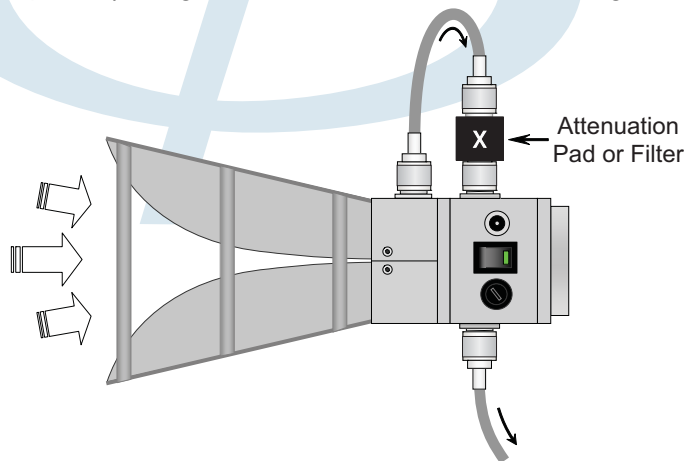

Figure 8 – AHA-118 - ACTIVE-Rx (non-std) Configuration
- 3) Disconnect the coaxial jumper cable from the preamplifier input connector of the antenna. Attach an appropriately rated coaxial attenuator (at least 10 dB) to the preamplifier input port, and connect the coaxial jumper cable to the attenuator input (see Figure 8). Reposition (if necessary) the antenna to the height noted in Step 1.
Illustrated in Figure 8 is the AHA-118 Active Double Ridge Horn Antenna in its ACTIVE-Rx (non-std) configuration. As shown, the coaxial jumper cable connects directly to the antenna port, and the other end of the jumper cable is connected to an addition device, such as an attenuation pad or an RF filter (band-pass or notch), which is connected to the preamplifier input port. For discussion purposes, we will call this device the 'X-device'.